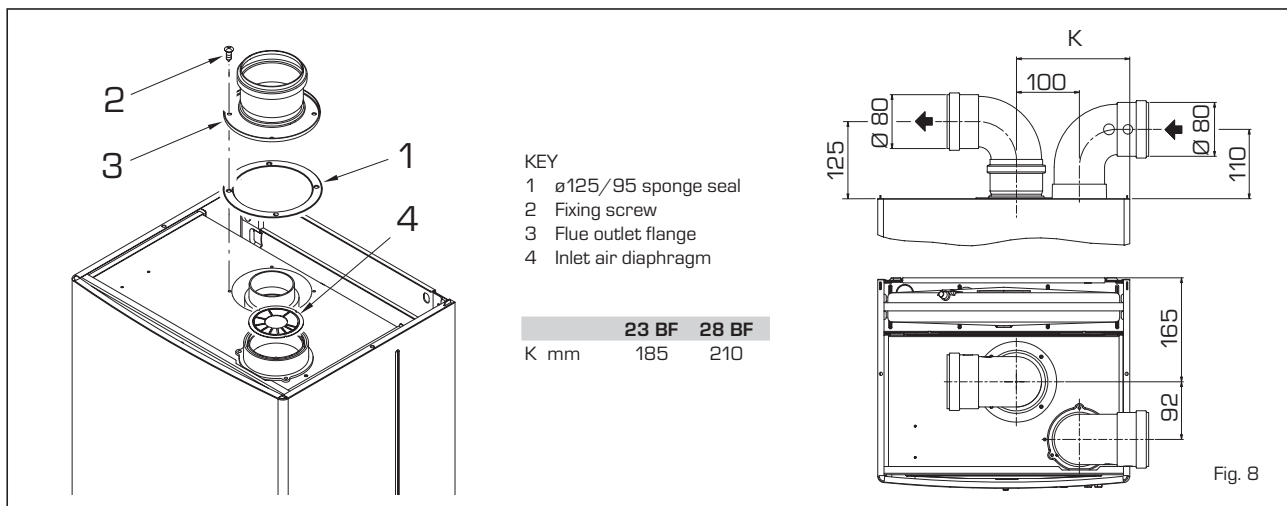

Fig. 8
2.9.1 Separate flue kit (fig. 8)
The separate flue kit code 8089904 is supplied with an intake diaphragm which must be used as shown in fig. 8/a, depend-